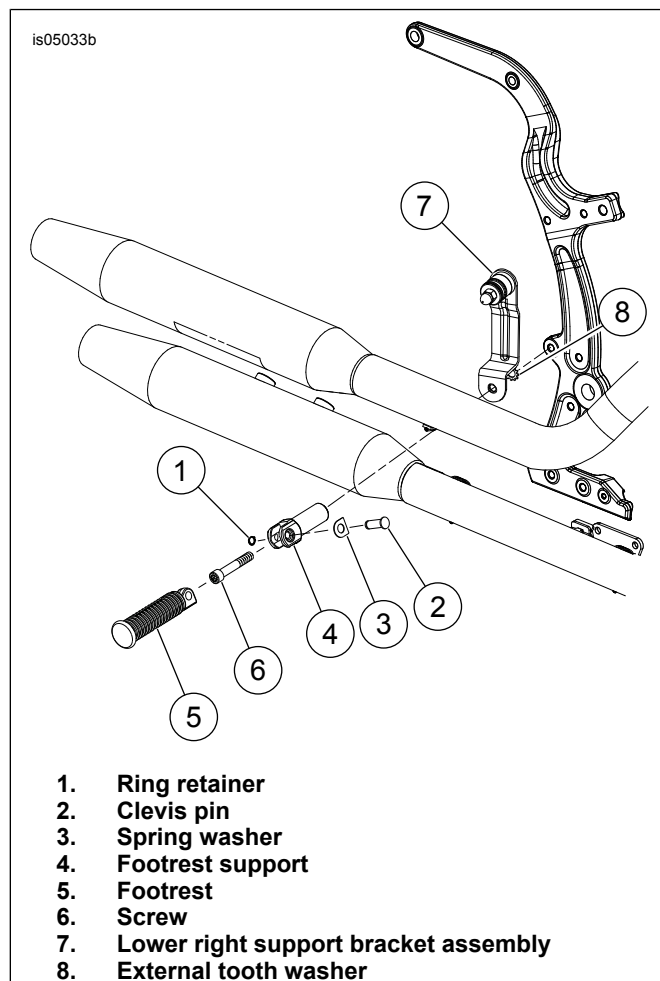

Figure 4. Lower Right Support Bracket Assembly
- See Figure 4. On the right side of the motorcycle remove the passenger footrest (5) retaining ring (1), clevis pin (2) and spring washer (3).
- Remove screw (6) from the frame and footrest support (4) and place the lower right support assembly and lockwasher to the footrest tab on the frame. Apply Loctite and install the footrest support and screw. Tighten the screw so that the bracket can be repositioned if necessary. Do not install the footrest at this time.